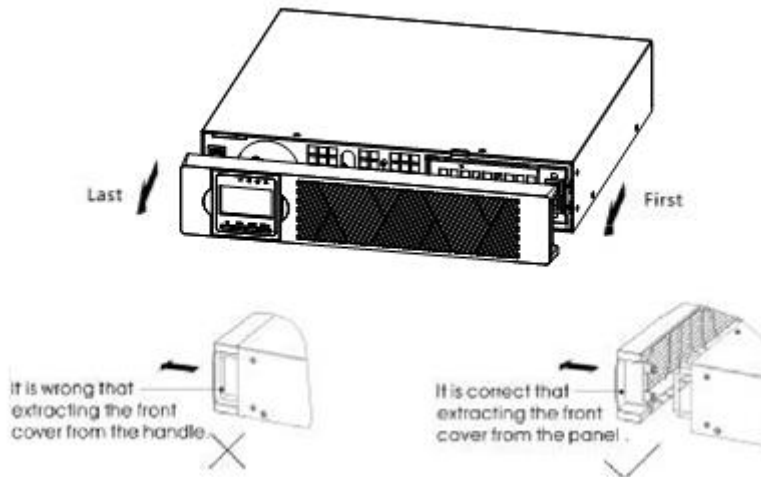

Figure8 - Removing the EBP Front Cover
(1) To install the optional EBP(s) for a UPS
a) Remove the front cover of each EBP and UPS (see Figure 8).